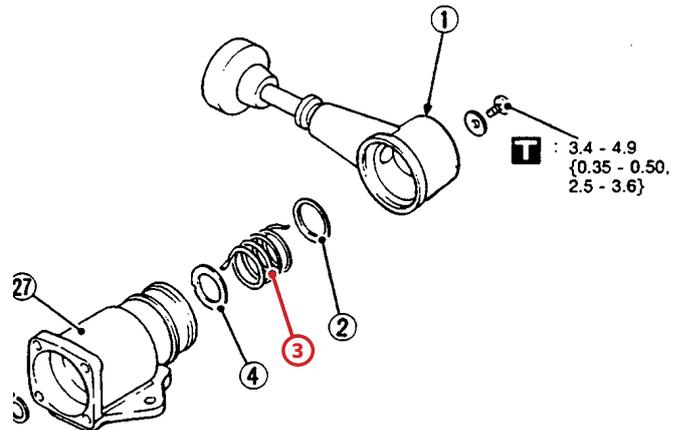

Figure 1. Handle lift to release (spring loaded to lock down)
- When rotating the hand control handle it should move freely and should be spring loaded to the OFF position (Figure 1, item 3: rotational spring).